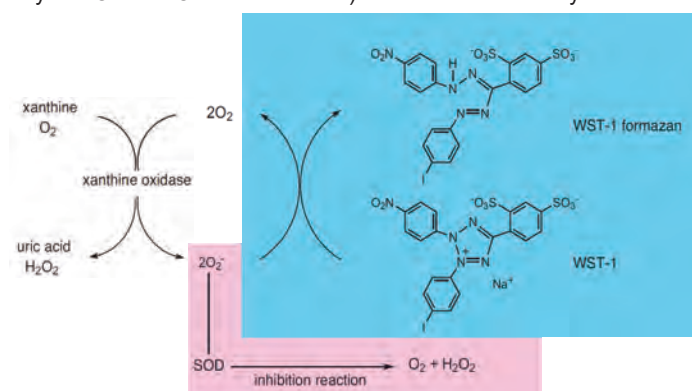

Fig.1 Principle of the determination of SOD activity using SOD Assay Kit - WST
Superoxide dismutase (SOD), which catalyzes the dismutation of the superoxide anion ($O_2^{\cdot-}$) into hydrogen peroxide and molecular oxygen, is one of the most important antioxidative enzymes. In order to determine SOD activity, several direct and indirect methods have been developed. Among these methods, the indirect method using nitroblue tetrazolium (NBT) is commonly used due to the convenience and ease to use. However, there are several disadvantages in the NBT method, such as poor water solubility of the formazan dye and the interaction with the reduced form of xanthine oxidase. SOD Assay Kit-WST allows very convenient SOD assay by utilizing Dojindo's highly water-soluble tetrazolium salt, WST-1 (2-(4-Iodophenyl)-3-(4-nitrophenyl)-5-(2,4-disulphophenyl)-2H-tetrazolium, monosodium salt) that produces a water-soluble formazan dye upon reduction with the superoxide anion. The rate of the reduction of WST-1 with $O_2^{\cdot-}$ are linearly related to the xanthine oxidase (XO) activity, and this reduction is inhibited by SOD, as shown in Fig. 1. Therefore, the IC_{50} (50% inhibition activity of SOD or SOD-like materials) can be determined by the colorimetric method (Patent filing).